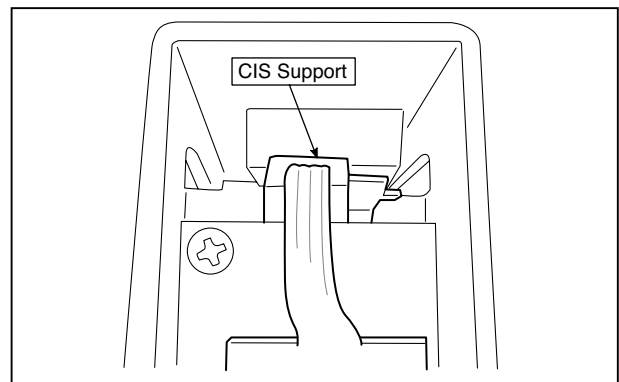

Fig.25
- \* The CIS Unit with a CIS Support (see Fig. 25) is located in the upper position.